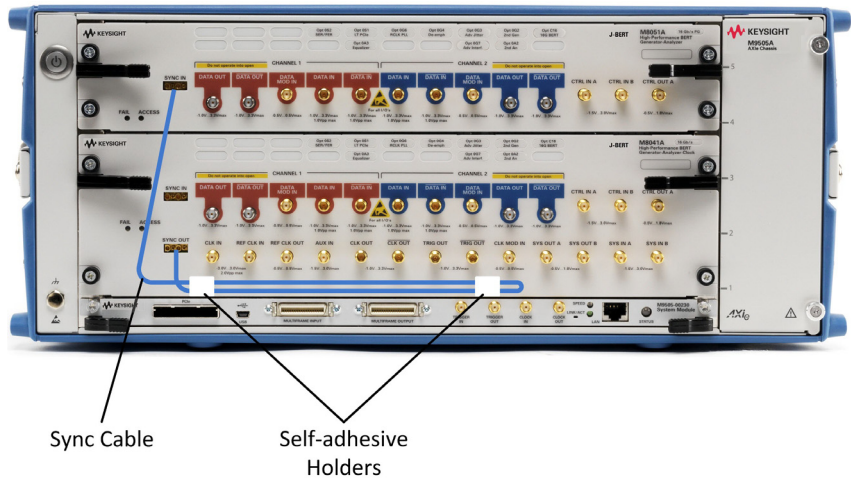

Figure 14 Synchronization cable routing
- 9 Route the synchronization cable as shown in Figure 14 on page -29 using the two self-adhesive cable holders.